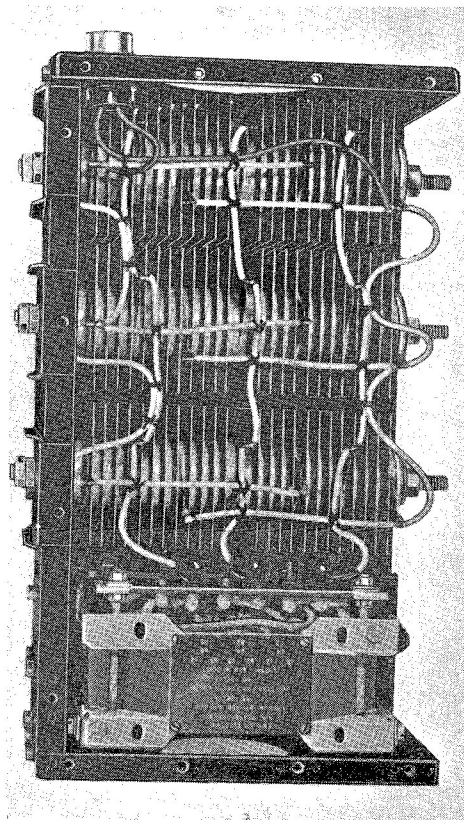

Fig. 2. View with cover removed
6. The remaining space is taken up by three full wave 122V 1.5 kW metal rectifiers (*fig. 2*). The ends of the rectifier spindles extend through the detachable side panels and are secured by nuts and spring washers.